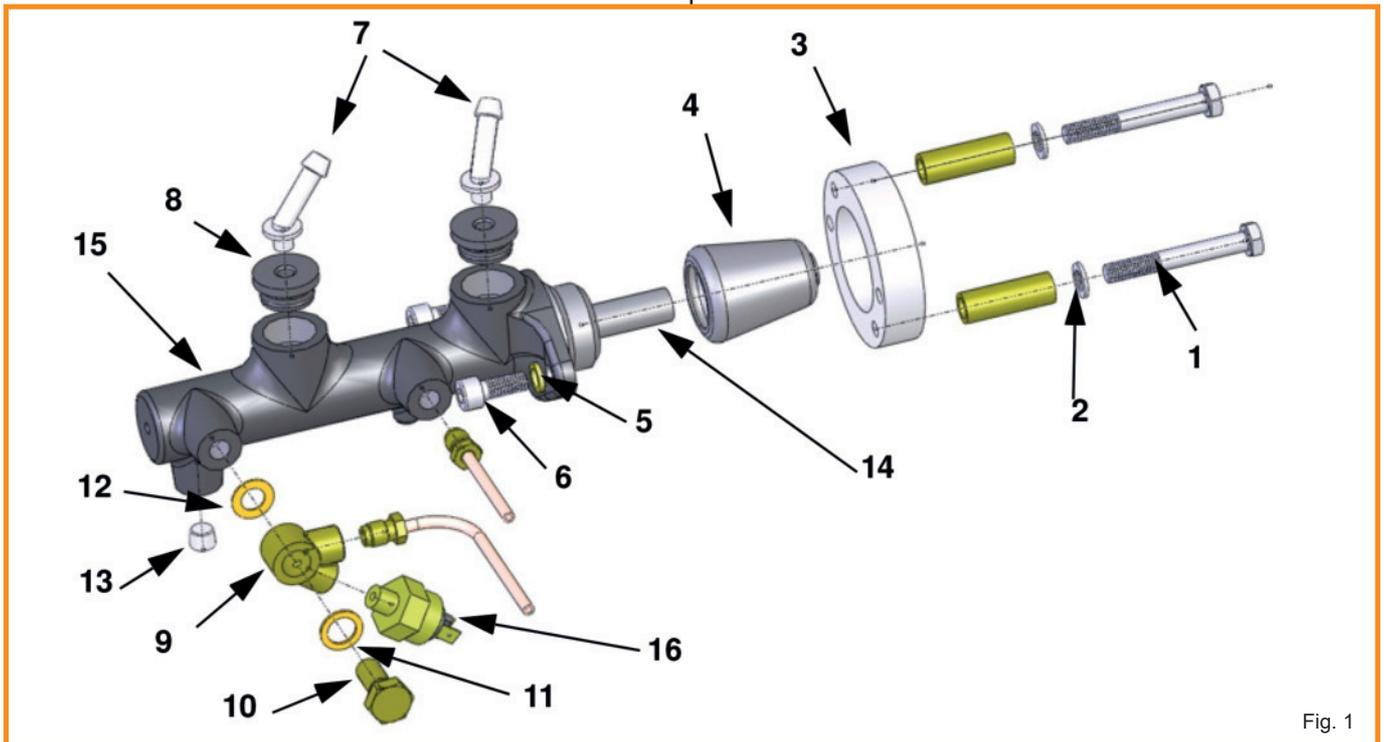

Fig. 1
- Put some brake fluid on the outside of the rubber grommets (Pos.8, Fig.1), then push them into the master cylinder.
- Put also some brake fluid on the outside of the plastic elbow connectors (Pos.7, Fig.1), then push them into the rubber grommets.
- Plug the lower front hole in the master cylinder using the M10x1 tapered pipe plug (Pos. 13, Fig. 1)
- Now install the brass banjo fitting (Pos.9, Fig. 1) using the banjo bolt with the two copper gaskets to the front side fitting of the master cylinder (max 20Nm).